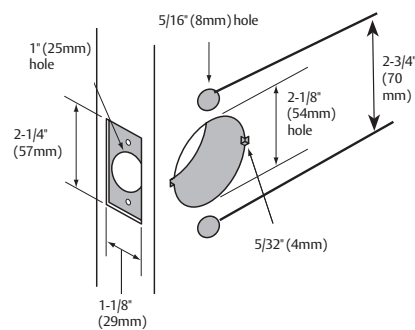

Figure 2
3. Verify the dimensions (See Figure 2).